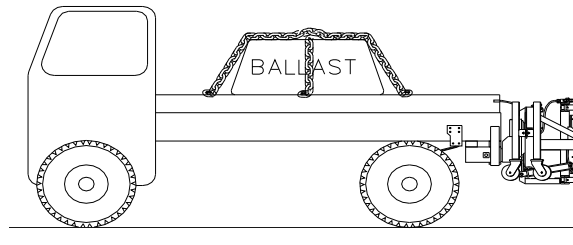

Figure 9
8. Ballast and other heavy objects **MUST BE ADEQUATELY ANCHORED** to the truck to prevent shifting during an impact (See Figure 9). (The force on the tie-down straps could be 20 times the weight of the ballast.)